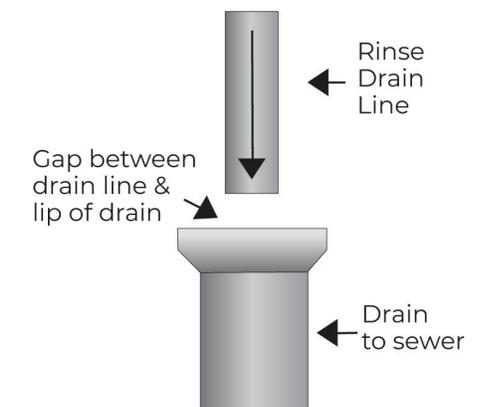

Figure 6 - Air Gap Illustration
6. An **AIR GAP** must be used in connecting to a drain line to prevent possible back siphoning into the tank [See Figure 6].
NOTE: An air gap is required when attaching a rinse line to a sewer line. The air gap will prevent backflow contamination [See Page 11, Figure 6].